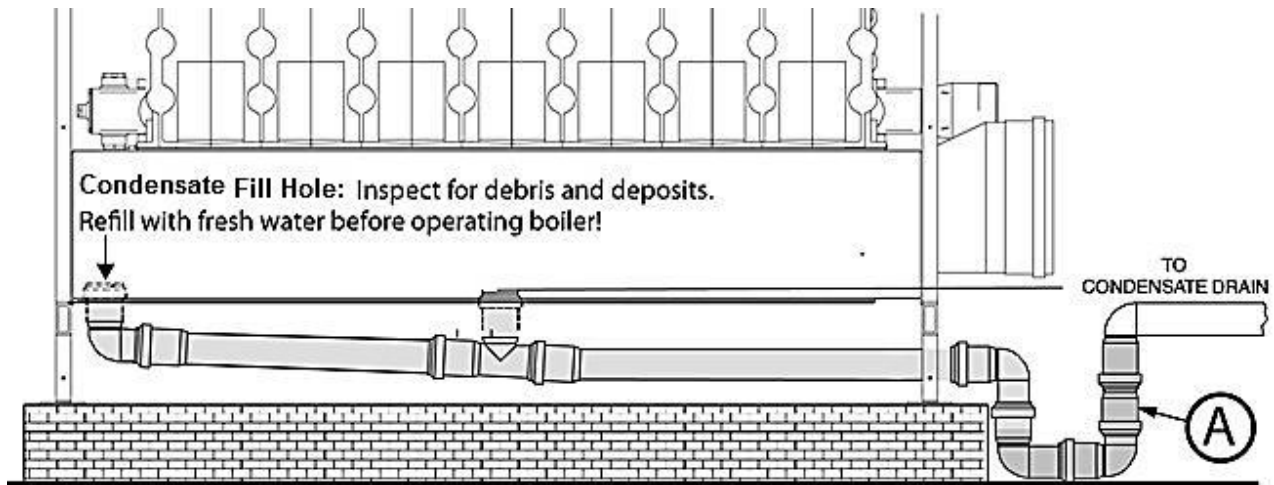

Figure 8-1: Condensate Drain Location
1. Refer to Figure 8-1, disconnect the pipe at location "A".